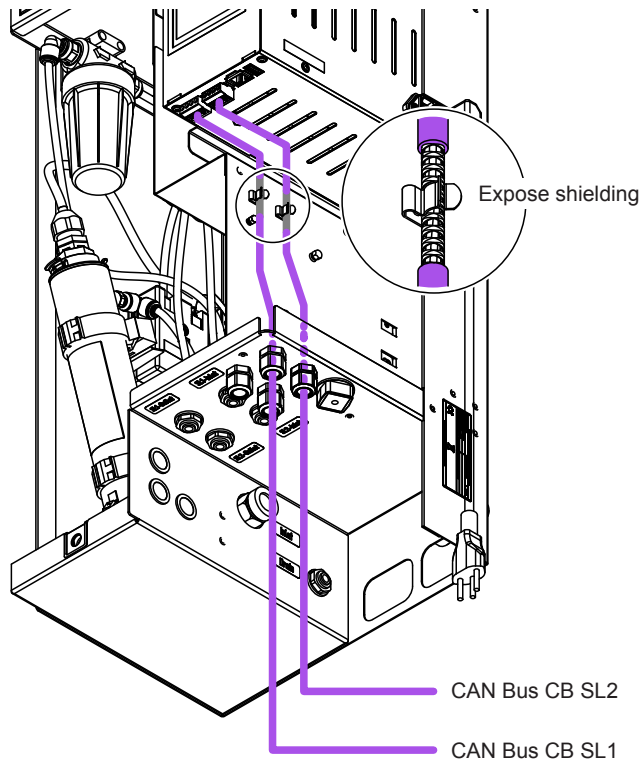

Fig. 45: Connecting CAN bus cables for spray loop 1 and spray loop 2 to the ConBox
- Prepare the CAN bus cable(s) to be connected to the ConBox according to Fig. 45.
- Connect the CAN Bus cable from spray loop 1 and, if present, spray loop 2 to the corresponding ports on the ConBox (CB) of the central unit according to Fig. 45.